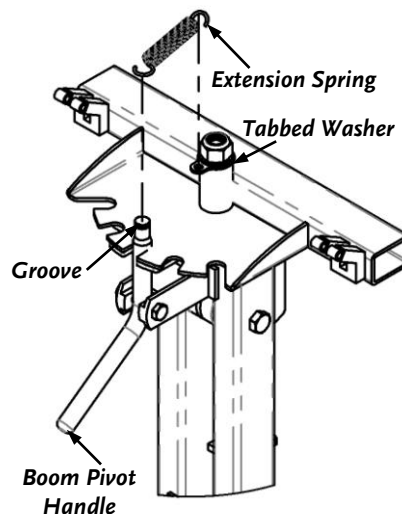

Figure 28
7. Install the Extension Spring on the Boom Pivot Handle. Hook one end around the Handle and the other end through the Tabbed Washer (**Figure 28**) on the Boom Pivot. Ensure that the Spring is properly seated in the Groove on the Boom Pivot Handle.